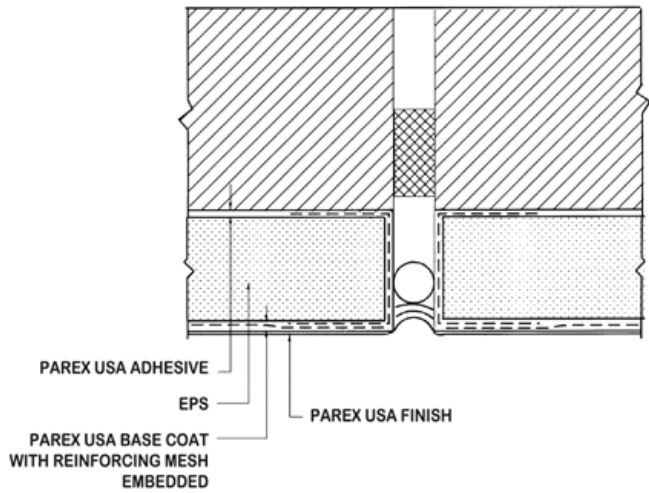

Fig 10.1
2. They absorb thermal expansion and contraction. In general, sealant joints are constructed similar to Fig 10.1. Parex USA requires the surface of the system which will receive the sealant to be either mesh-reinforced basecoat or track. Do not return finish into the joints or other areas to receive sealant. Sealants are applied in strict conformance with the sealant manufacturer's recommendation.